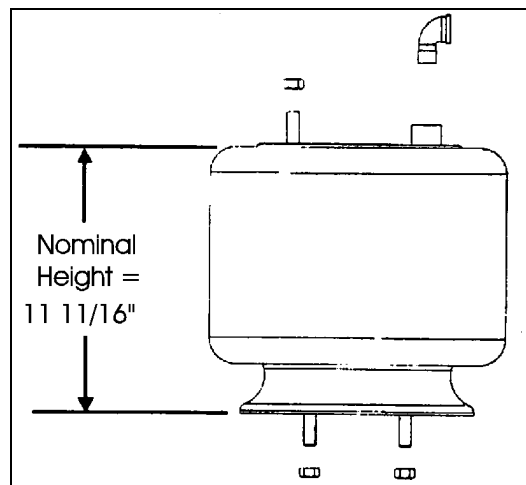

FIGURE 7
1. Pump up all suspension air springs to the nominal height (Fig. 7).
6. Adjust the toe when suspension is at the nominal height. The distance between the two air spring plates must be 11 11/16 inches (Fig. 7).